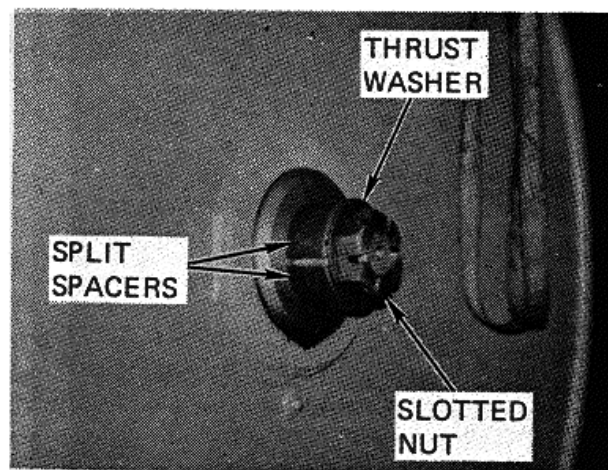

FIGURE 9-107.
f. Install split spacers, thrust washers, and slotted nuts (see figure 9-107).